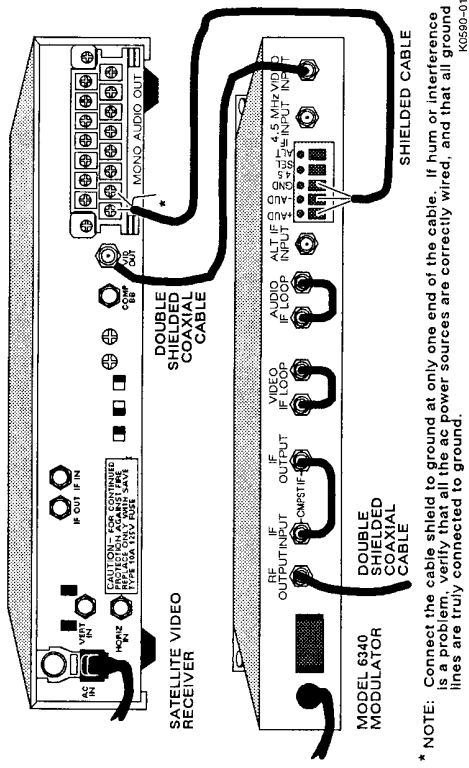

Figure 2-2. Equipment Connection
2. Connect a shielded twisted pair cable from the audio source to the modulator's AUDIO IN terminal block. Connections should be made carefully according to the indications (+, GND, -) as labeled by each terminal. See figure 2-2.